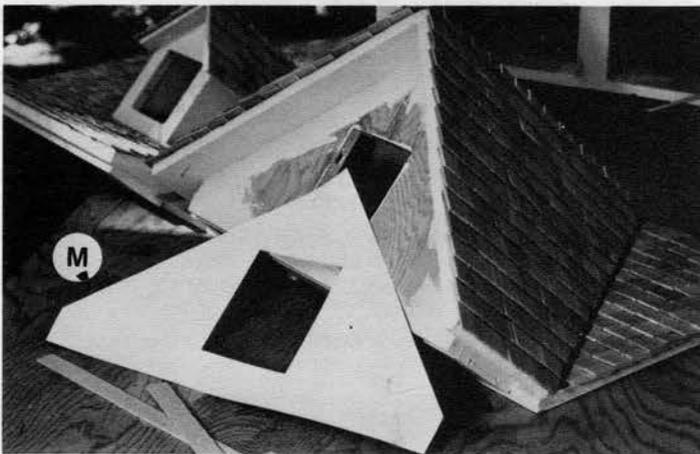

Fig. D-2
For shingling any difficult area, such as the facade in (FIGURE D-2) here is a very effective trick: First make a pattern of the area by taping in bits of paper conforming to the area, (see pattern making for flooring). Once a true shape has been established, outline it on a piece of light cardboard and cut it out, (M).